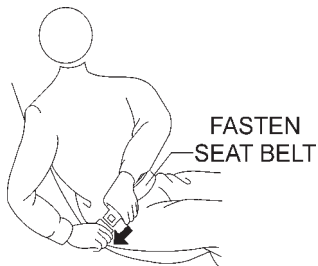

Figure 17. Securing Seat Belt
2. Sit down in the operators seat and adjust the seat for a comfortable position, then fasten the seat belt (Figure 17) around your waist. **NEVER!** operate the roller without the seat belt being fastened, serious injury could occur if the seat belt is not used.